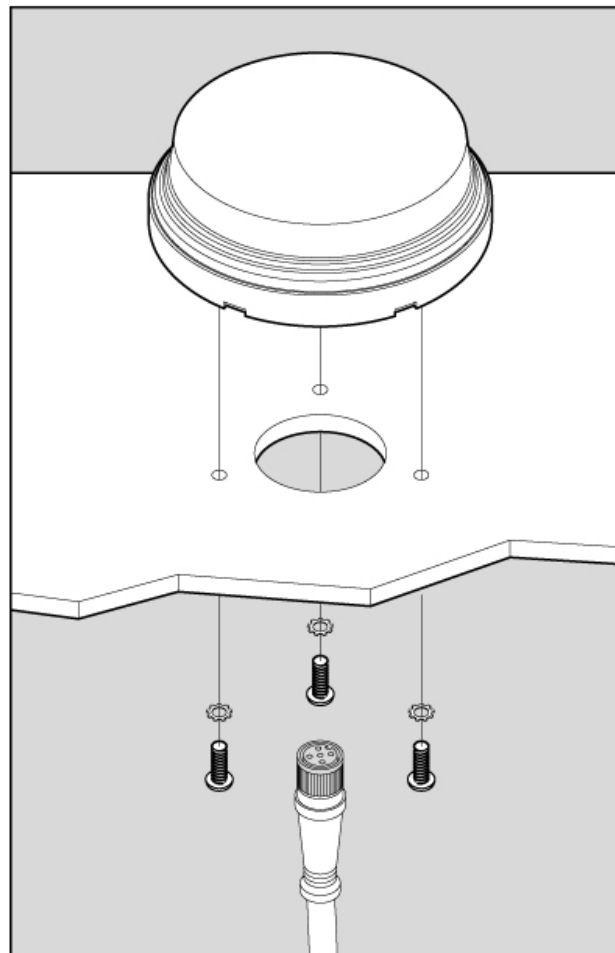

Figure 1 – Mounting the GPS200 to a flat surface
Attach the GPS200 securely to the vessel using the included brass mounting screws and included lock washers or other fasteners as shown in Figure 1 (see mounting template in Section 8 for drill pattern). Do not use threadlocking compounds containing methacrylate ester, such as Loctite Red (271), as they will cause stress cracking of the plastic enclosure.